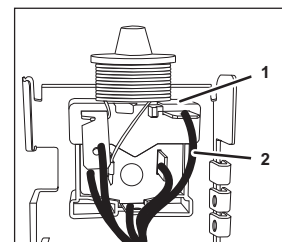

Fig. 57
3. Disconnect the electrical cables (Fig. 57/2) from the starter relay (Fig. 57/1).
4. Remove the starter relay (Fig. 57/1) from the unit.
5. Position the new starter relay (Fig. 57/1) on the unit.
6. Connect the electrical cables (Fig. 57/2) of the starter relay (Fig. 57/1).